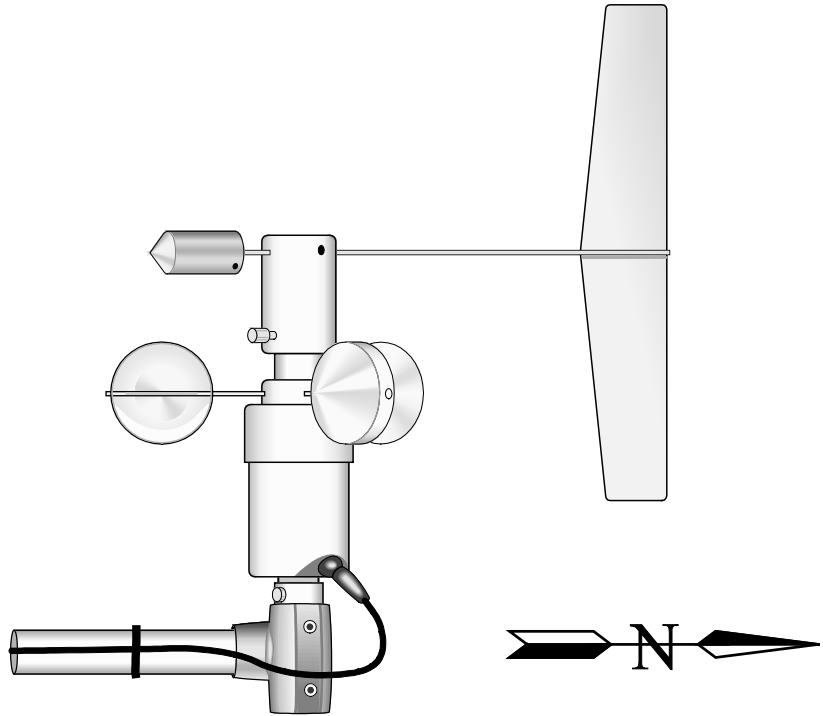
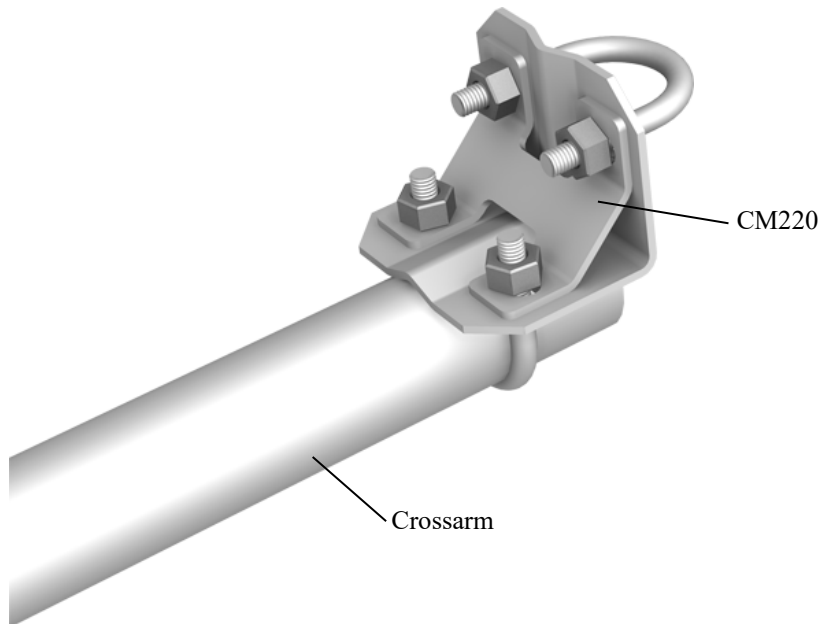

FIGURE 7-1. 034B mounted on a crossarm using a #17953 Nu-Rail® Crossover Fitting
FIGURE 7-2. Crossarm with CM220 Right Angle Mounting Bracket
The 034B is mounted to a Campbell Scientific crossarm using either the #17953 Nu-Rail® Crossover Fitting (FIGURE 7-1), or the CM220 Right-Angle Mounting Kit (FIGURE 7-2).
1. Fully insert vane arm into hub (see FIGURE 7-1).
2. Align vane with centre axis of sensor (see FIGURE 7-1).
3. Using the Allen wrench, tighten set screws at the top of the hub (see FIGURE 7-1).
7. Remove the alignment screw at the base of the 034B (FIGURE 7-1).
8. Insert the 034B into the aluminium bushing provided with the sensor (see FIGURE 7-1).
9. Align the hole in the bushing with that in the 034B base and replace the screw (see FIGURE 7-1).
10. Insert the 034B/bushing into the Nu-Rail® fitting (FIGURE 7-1) or the CM220's U-bolt (FIGURE 7-2).
12. Remove the shoulder screw to allow the vane to rotate (see FIGURE 7-1).